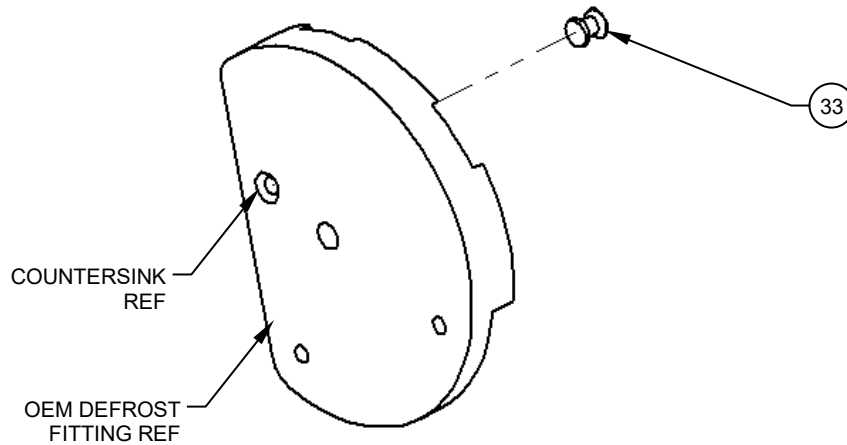

Figure 25
5.1. Countersink the back side of the OEM Defrost Fitting, and plug the FWD OEM countersunk hole with 1x Rivet, Solid, Countersunk, Detail (Item 33). Ensure the shop head is on the backside, and is flush with the back surface. See Figure 25.